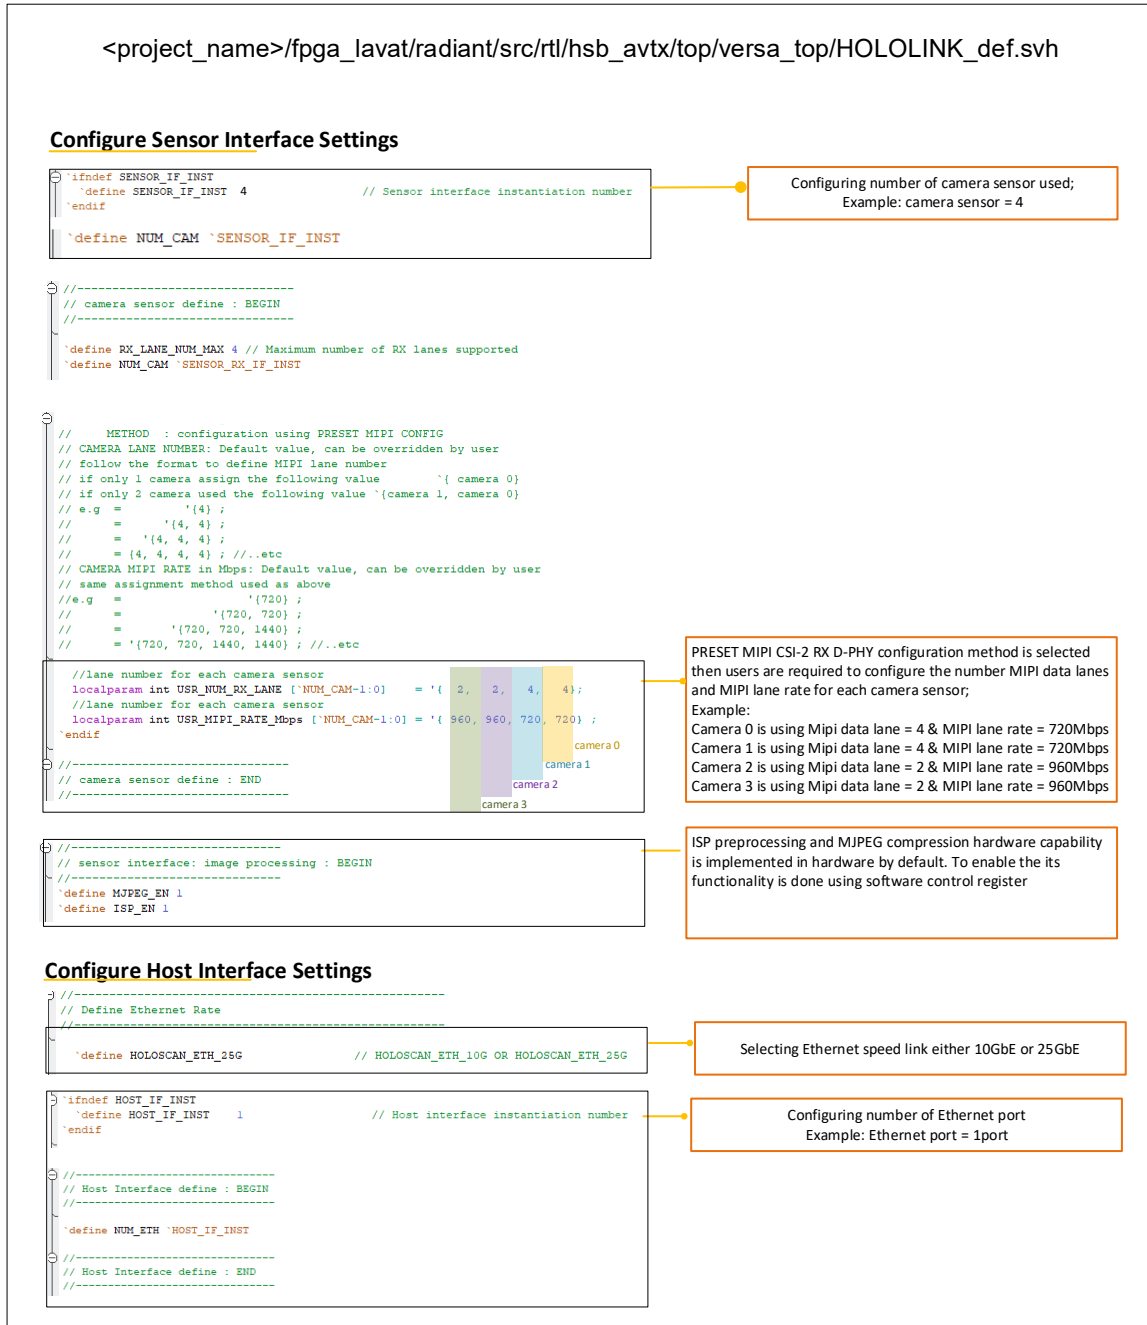

Figure 4.10. Define Switch Setting in HOLOLINK\_def.svh File
Figure 4.10 shows the DEFINE switches that need to be changed in the HOLOLINK\_def.svh file. These settings must be carefully configured to ensure the HDL design reflects the intended hardware setup and supports the required camera sensor interfaces.
**Note:** Figure 4.10 shows an example of setting four camera sensors. If more or less cameras are required for the intended reference design, the array size for `USR_NUM_RX_LANE[`NUM_CAM-1:0]` and `USR_MIPI_RATE_Mbps[`NUM_CAM-1:0]` will change. Therefore, the data assigned to it are trimmed or added based on the intended camera number usage.